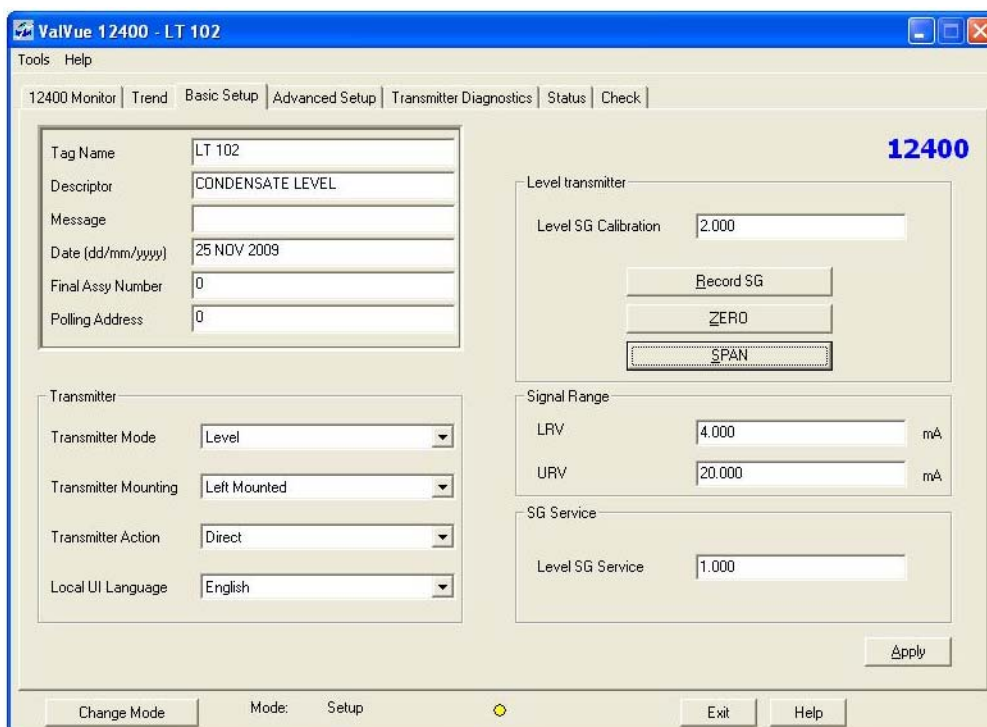

Figure 153 Selecting SG Span
1. Click **SPAN** (Figure 153).